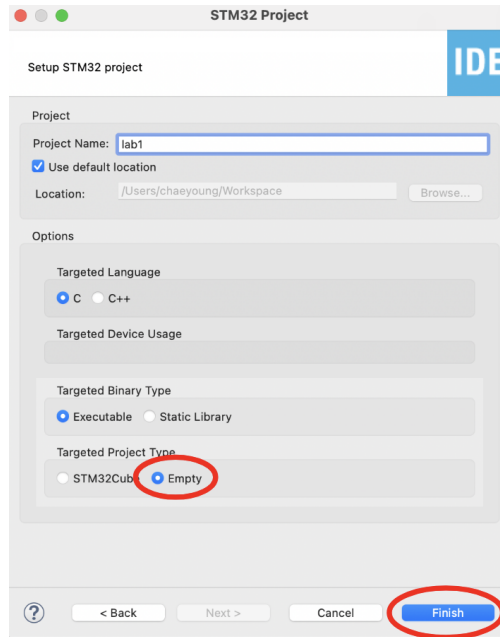

Figure 2: Initialize project as empty.
- Click **Next**, name your project (e.g., `lab1`), click Targeted Project Type as **Empty**, and click **Finish** (see Figure 2).